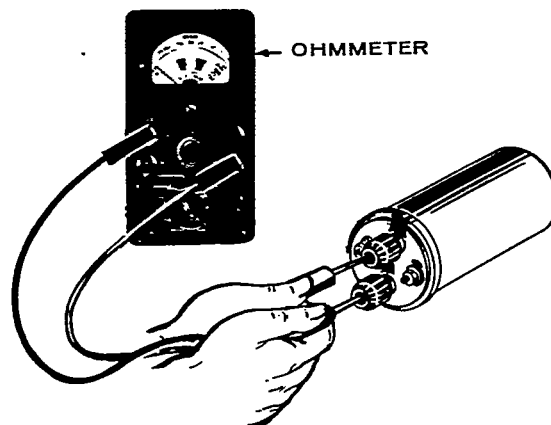

FIGURE 15. COIL TEST
2. Place black lead on ground (-) terminal of coil and red lead to positive (+) terminal. Primary resistance should read 4.30 ( $\pm 10\%$ ) ohms @ 70 F (21 C). See Figure 15.